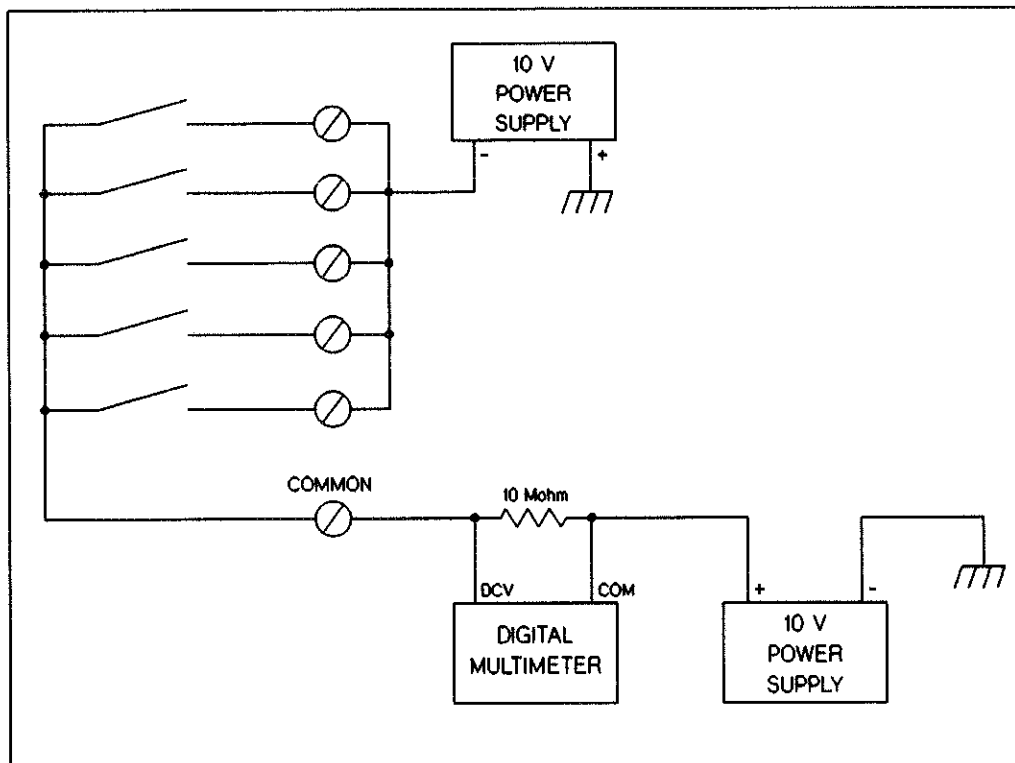
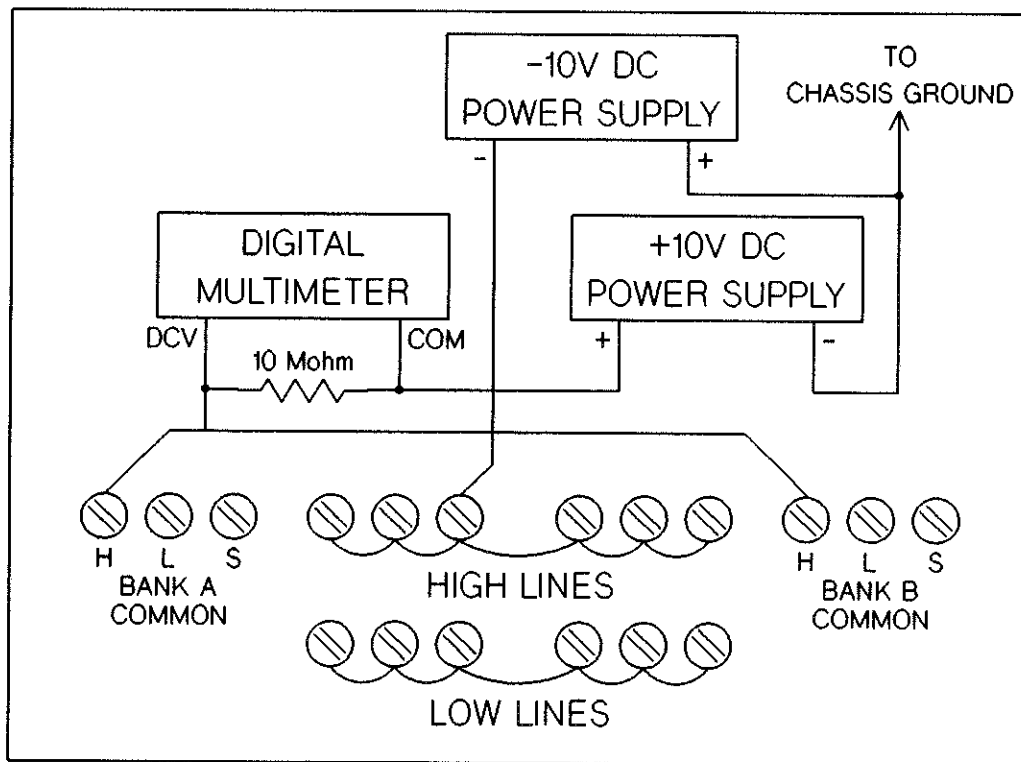

Figure 10-17 Open Channel Leakage Test
Figure 10-18 HP 44711A Open HIGH Channel Test Set-Up
1. OPEN CHANNELS LEAKAGE/BIAS CURRENT TEST. This test checks the leakage current with all channels open. A simplified schematic of the setup is shown in Figure 10-17 and the test setup for the HIGH lines is shown in Figure 10-18.